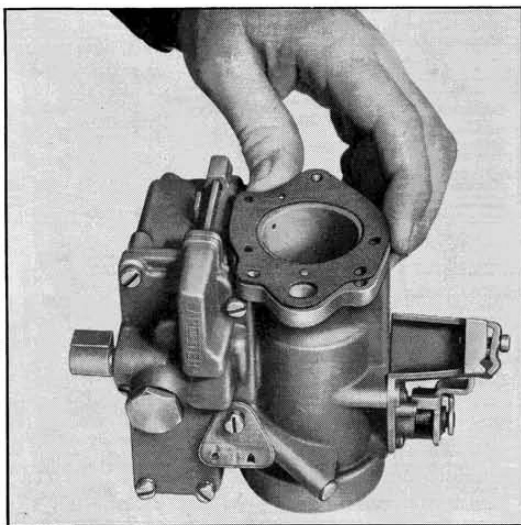

Fig. 12
11. Install body flange to carburetor body gasket (fig. 12) making sure holes are aligned, then install flange. Tighten screws securely.